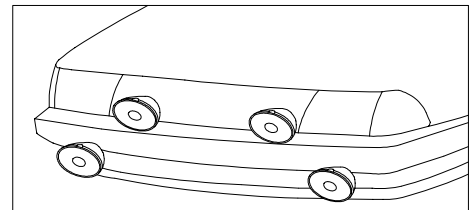

Fig. 1
4. Mount both of the lamps at the same height. Position the lamps at an equal distance from the center of the vehicle and as far apart as possible. **(See Fig. 1)**